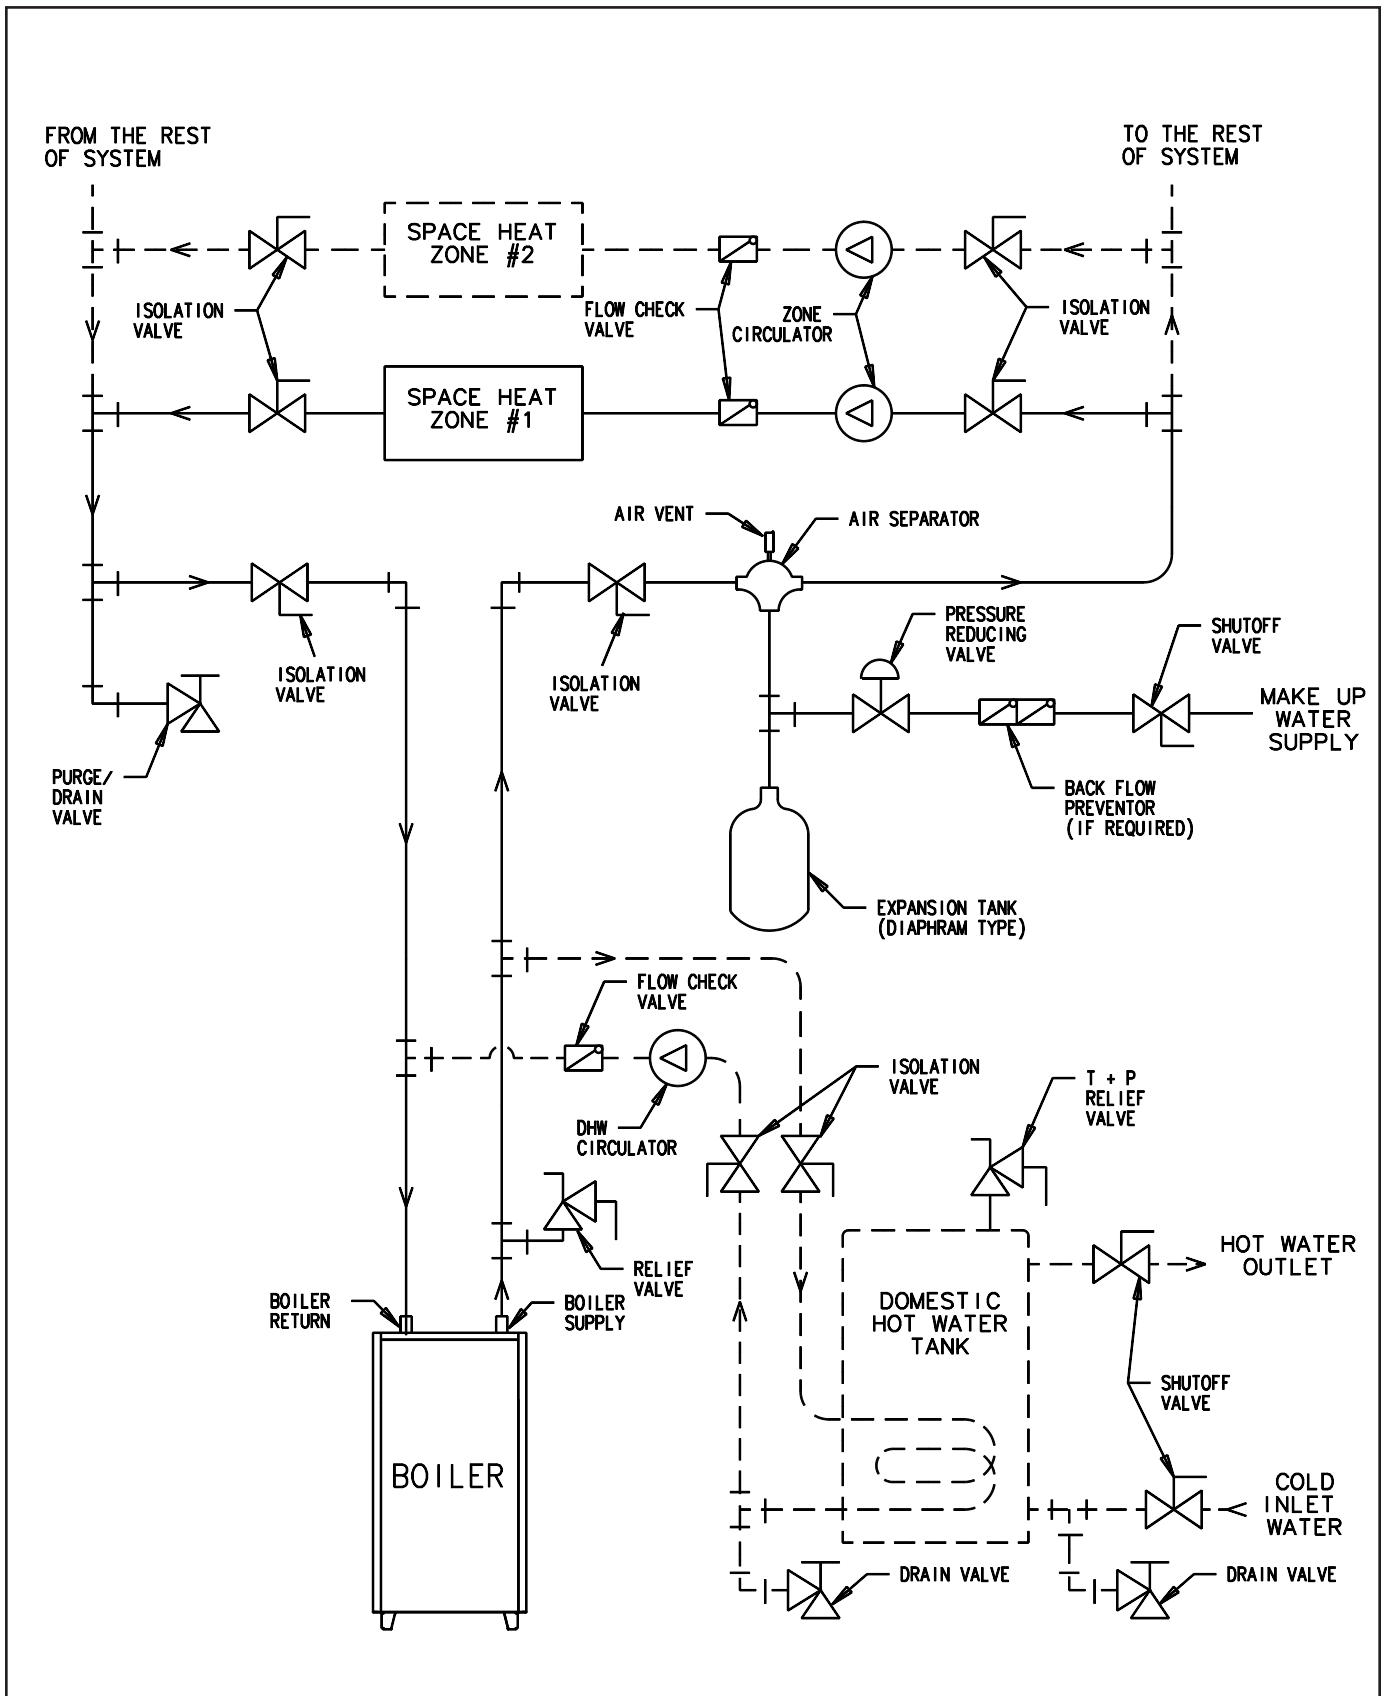

Figure 11. Zoning with circulators, optional indirect DHW tank
- B. For zoning and piping arrangement with indirect water heater, see figure 11 and 12.